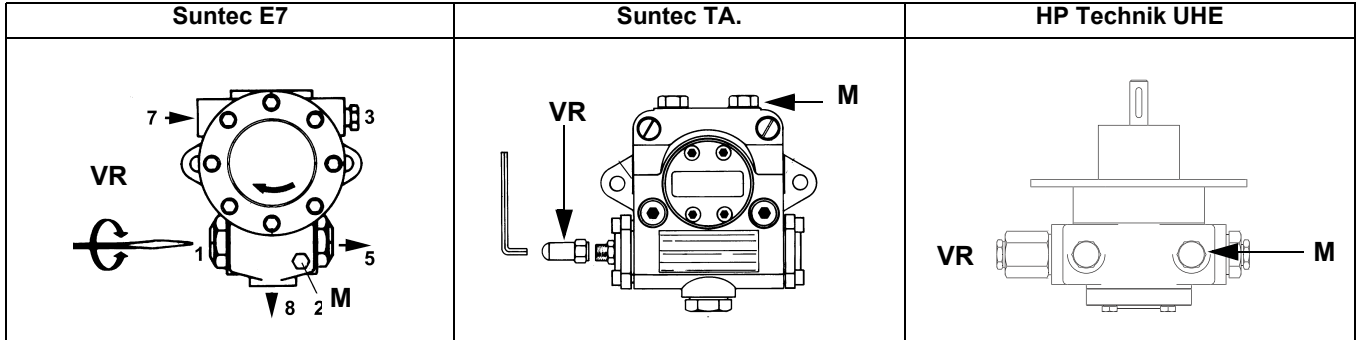

Fig. 26
- Only if necessary, adjust the supply pressure as follows (see related paragraph); insert a pressure gauge into the port shown on Fig. 26 and act on on the pump adjusting screw **VR** (see Fig. 25) as to get the nozzle pressure at 20bar (Monarch or Fluidics nozzles - see page 38-38).